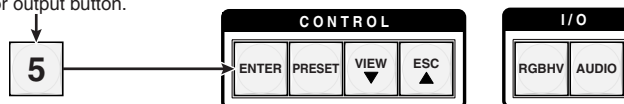

Figure 3-69 — Exit Serial Port Configuration mode
4. Press and release an input or output button to exit the *Serial Port Configuration* mode (figure 3-69).